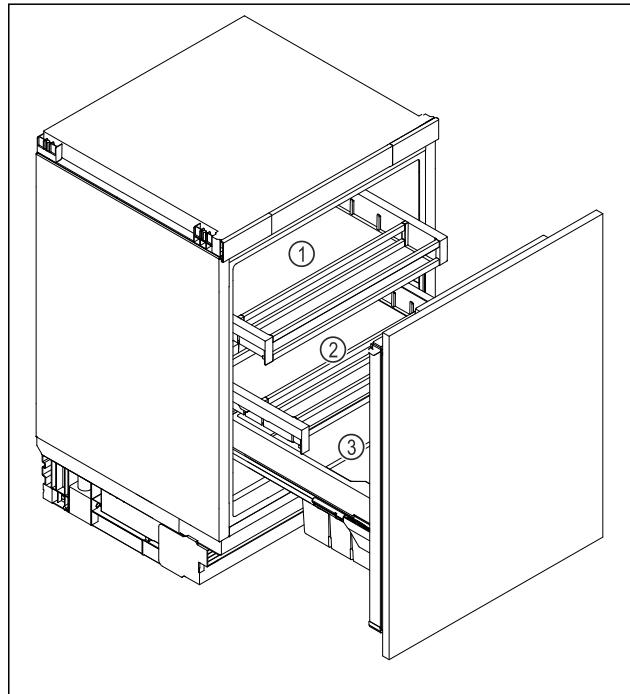

Fig. 6 Example illustration
- Top drawer Fig. 6 (1): Store butter, cheese, canned food, and tubes.
- Bottom drawer Fig. 6 (2): Store perishable food, such as pre-cooked meals, fish, fresh meat and lunch meat.
- Fruit and vegetable box *Fig. 6 (3)*: Store packaged fruit and vegetables.
- Beverage drawer *Fig. 6 (3)*: Store individual bottles.